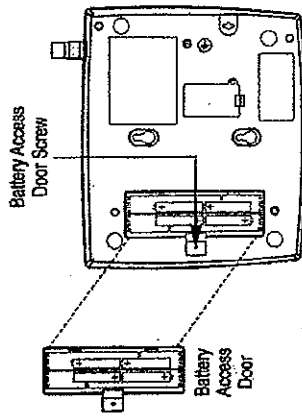

Figure 3 - SX5 battery installation.
1. Remove the battery access door screw located on the bottom of the unit - see Figure 3.
3. Install 4 "AA" alkaline batteries (not supplied) - see Figure 3.